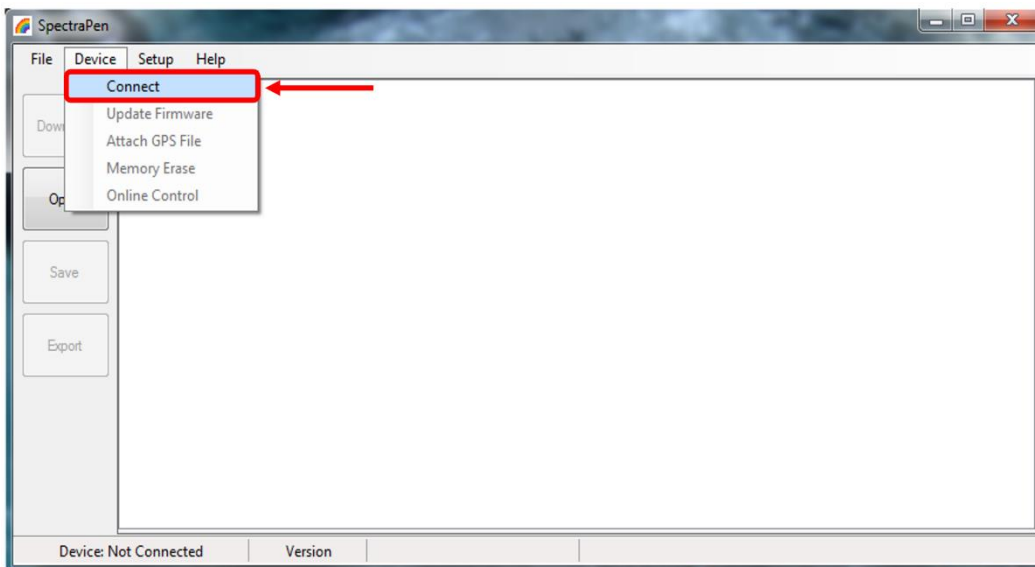

Fig. 22 Connect.
5. Connect SpectraPen device in SpectraPen software, **Device > Connect** (Fig. 22)